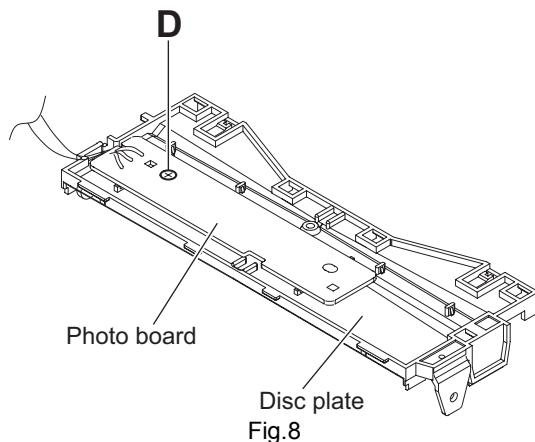

Fig.8
- (3) From the reverse side of the disc plate, remove the screw **D** attaching the PHOTO BOARD assembly. (See Fig.8.)